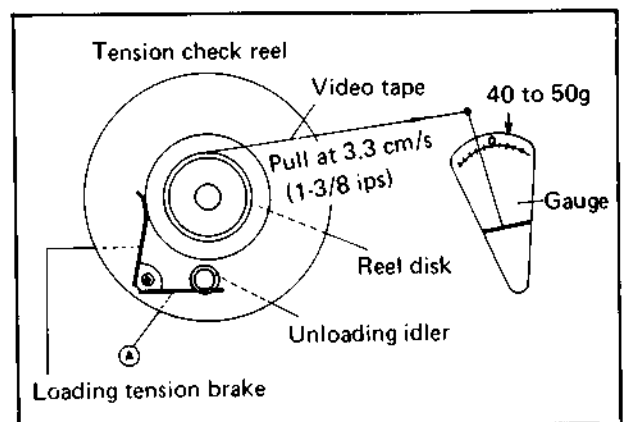

Fig. 5-9
5. Measure the supply loading tension by pulling the video tape and reading tension gauge as shown in Fig. 5-9.